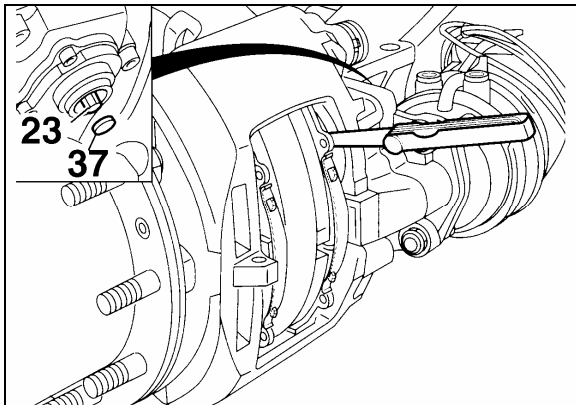

FIGURE 34: RUNNING CLEARANCE
- Insert a feeler gauge 0.028 inch (0.7 mm thickness) between tappet and pad backplate (Fig. 34). Turn adjuster pinion clockwise until 0.028 inch (0.7 mm) clearance is achieved. Replace cap (37) (Prévost # 641313).
- To ensure a constant running clearance between the rotor and pads, the brake is equipped with an automatic adjuster unit. When the pads and rotor wear, the running clearance between the pads and rotor increases. The adjuster (23, Fig. 34) and turning device turn the threaded tubes by the amount necessary to compensate the wear.